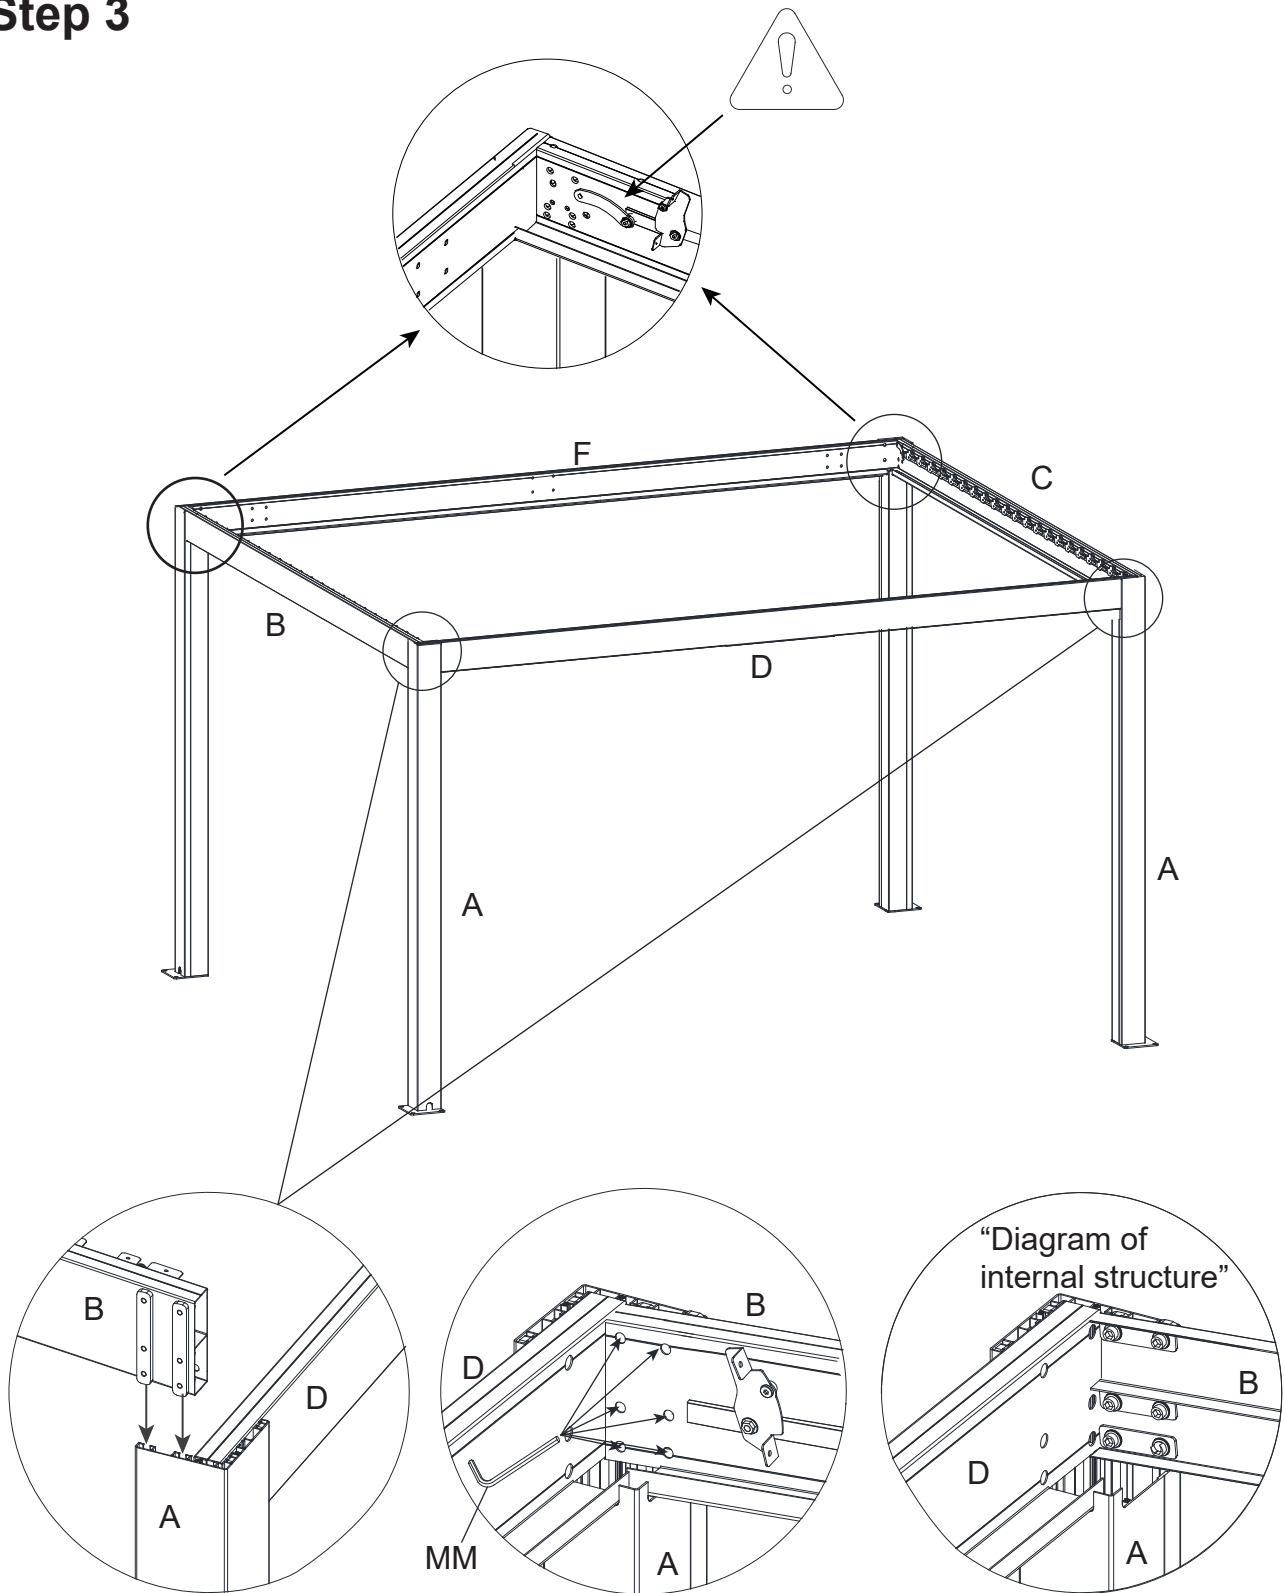

Figure 3
3. Slide one end of the Lintel (B/C) into the built-in guide of the Corner Post (A) and tighten it by Allen Wrench (MM). See Figure 3.